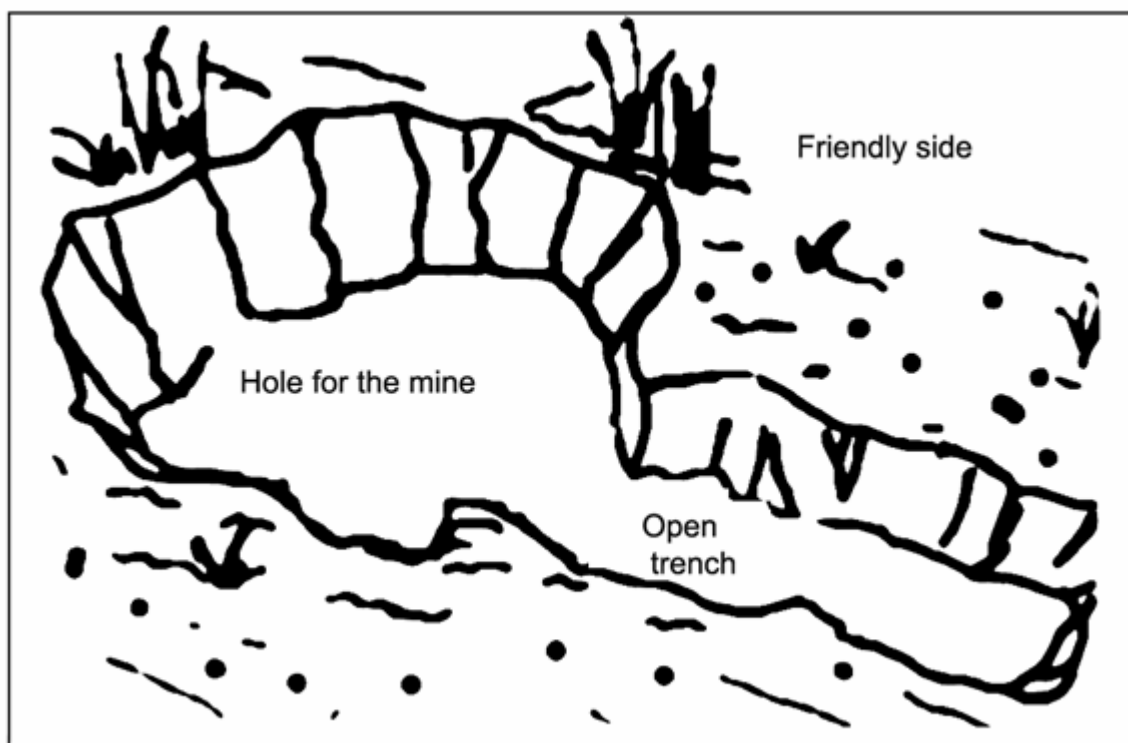

Figure 052-193-1101-1
- c. Dig a hole to fit the mine, with a trench coming off of the side at about a 45-degree angle toward the friendly side (Figure 052-193-1101-1).